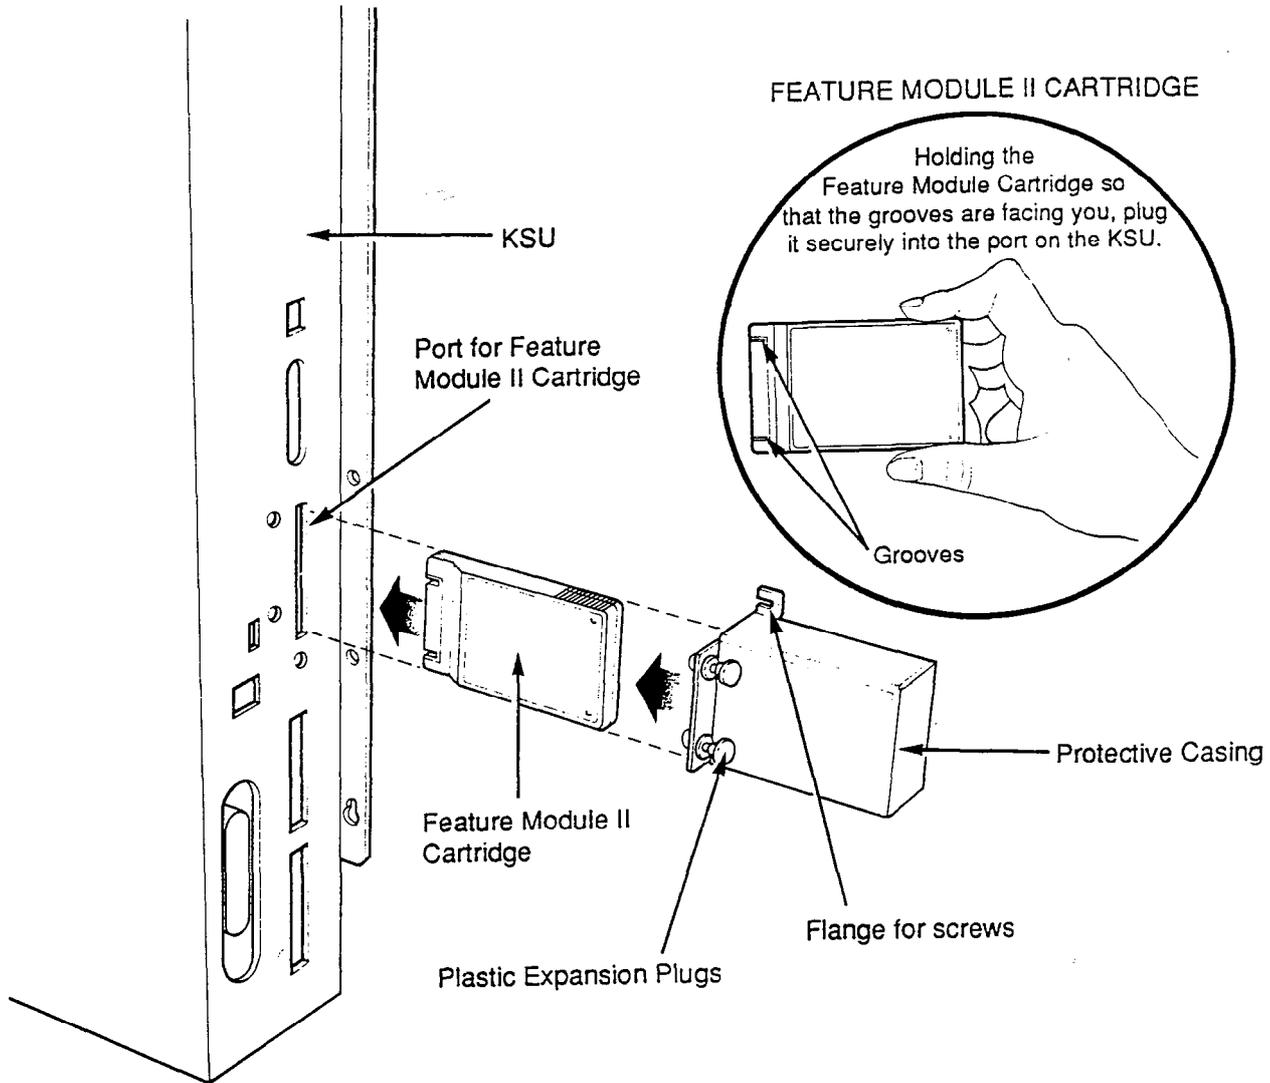

Figure 2-1 Installing the Feature Module II Cartridge
- Step 2. There are two small grooves on the Feature Module II Cartridge connector. Holding the Feature Module II Cartridge so that the grooves are facing you, plug it securely into the port on the KSU (refer to the close-up shown in Figure 2-1). Place the protective cover over the Feature Module II Cartridge, push in the plastic expansion plugs, and tighten the two screws.
- Step 8. There are two small grooves on the Feature Module II Cartridge connector. Holding the replacement Feature Module II Cartridge so that the grooves are facing you, plug it securely into the port on the KSU (refer to the close-up shown in Figure 2-1).